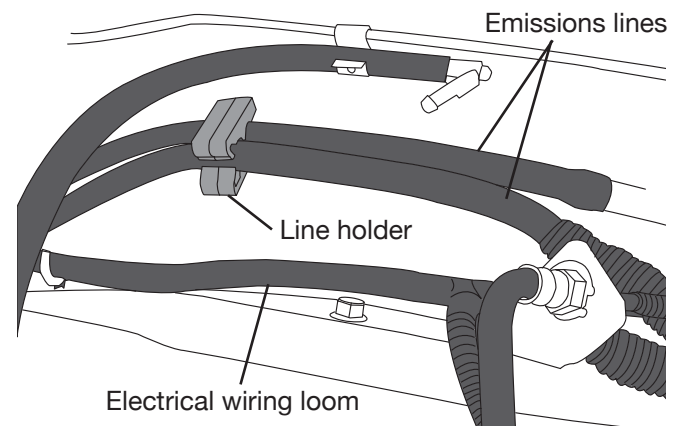

Fig. 3
If your model truck has emissions lines running along the inside of the frame rail (Fig. 3), it will be necessary to relocate those lines as follows. Follow the directions in the section, "Attaching the Assemblies to the Frame" for reattaching these lines.
- Carefully push the line holder out of the frame above the axle. Try to minimize damage because it will be reused later. It may also be helpful to remove any holders forward or rearward of the axle to aid in positioning the lines once the upper bracket has been installed (Fig. 3).